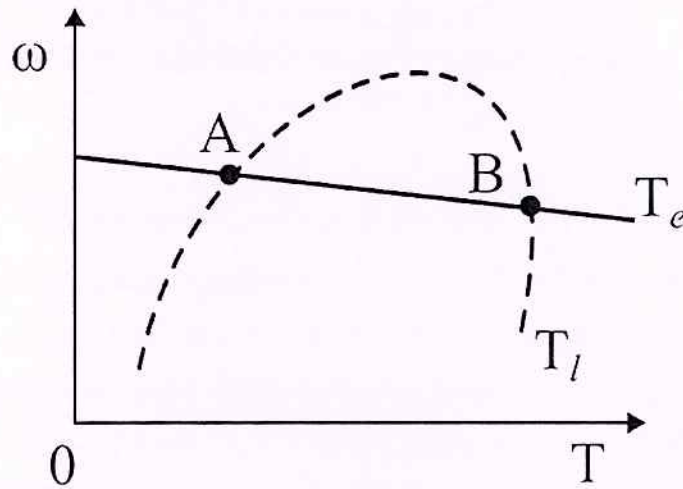

Figure 1
- 7 The torque–speed characteristics of the motor  $T_e$  (solid curve) and the load  $T_l$  (dotted curve) are shown in Figure 1. Determine which operating point, A or B, is stable, and explain why. CO5 (3)